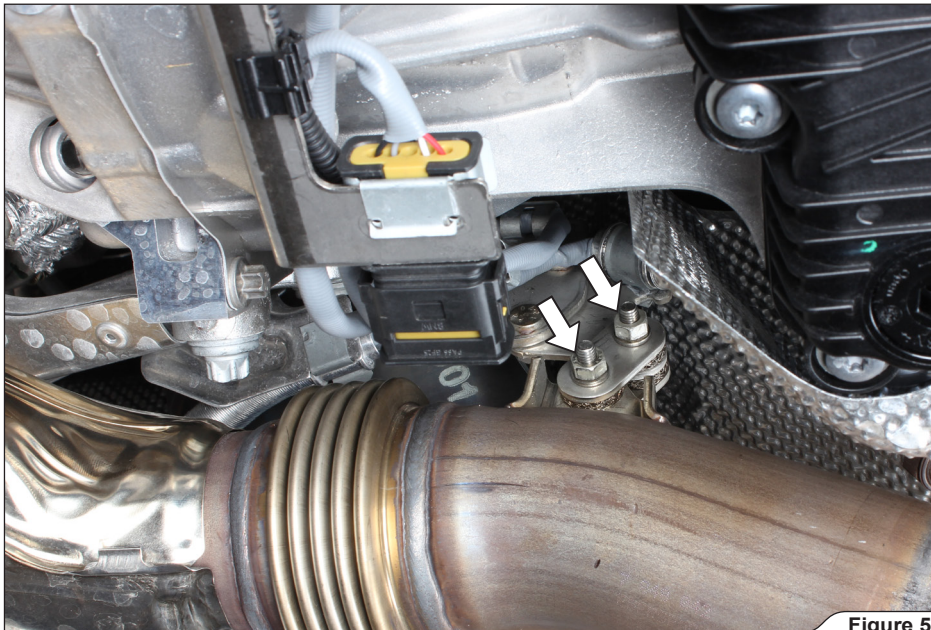

Figure 5
4. Dismantle the downpipes off the vehicle in the following order (**Figure 5, 6, 7, 8, 9, 10**):